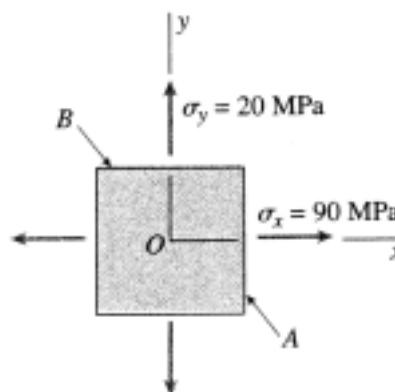

Fig. 4
4. At a point on the surface of a pressurized cylinder, the material is subjected to biaxial stresses $\sigma_x = 90$ MPa and $\sigma_y = 20$ MPa, as shown on the stress element of Fig. 4. Using Mohr's circle, determine the stresses acting on an element inclined at an angle $\theta = 30^\circ$. (Consider only the in-plane stresses, and show the results on a sketch of a properly oriented element.) (25%)